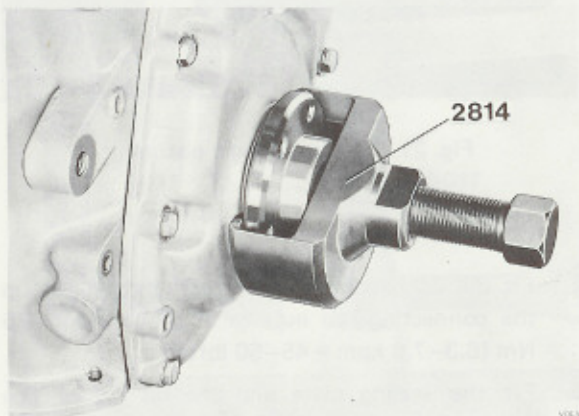

Fig. 21-35. Removing the polygon hub
2. Remove the centre bolt and pull off the polygon hub with puller 2814, Fig. 21-35.
3. Remove the centre bolt and pull off the polygon hub with puller 2814, Fig. 21-35. (But first try to see whether the polygon hub can be pulled off by hand.)